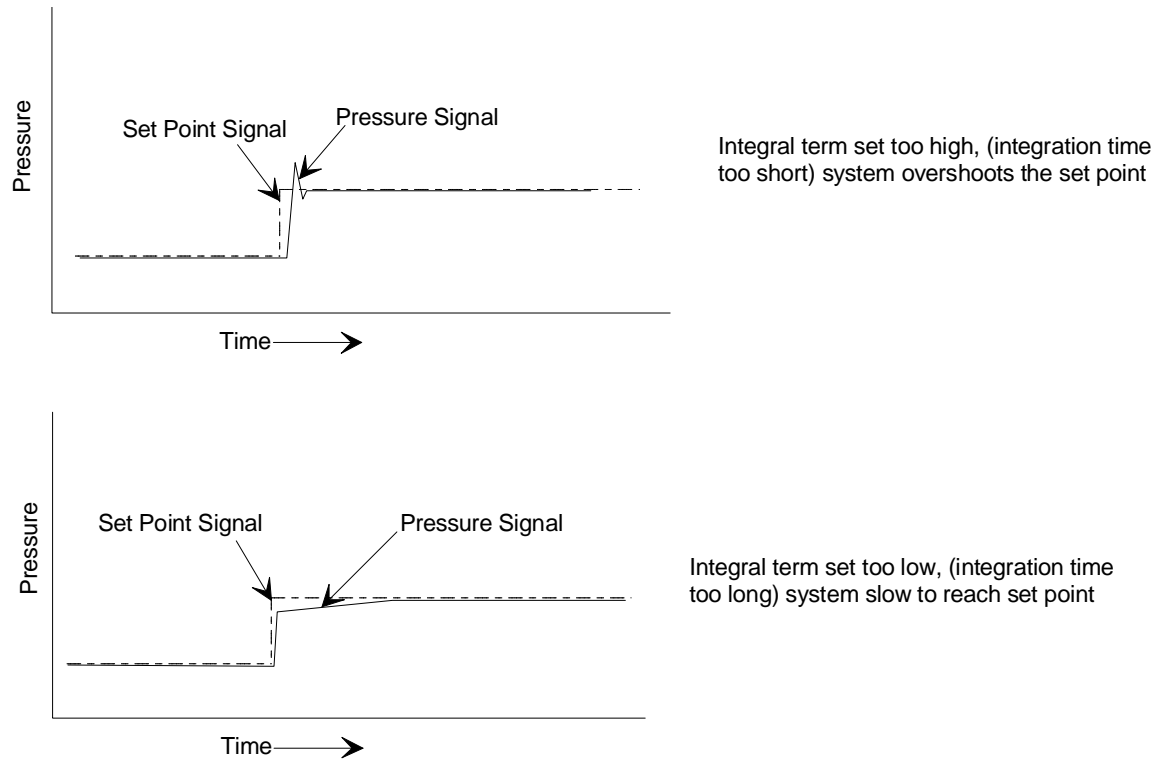

Figure 16: Effects of the Integral Control
The action of the Integral (I) term creates a valve drive signal that is proportional to the magnitude and sign of the area under the error signal curve (error signal with respect to time). Therefore, as time passes, the integral term acts to position the valve to reduce the error signal to zero. An increase in the integration time increases the period of time over which the error signal is generated, and the system response gets slower. Figure 16 shows the effects of the Integral term.